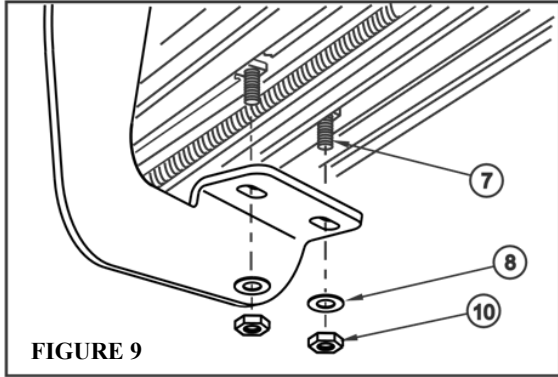

FIGURE 9
5. Attach board to brackets as shown. Make sure board and brackets are properly aligned and tighten fasteners. Recommended torque values are 10 ft-lbs for 5/16" square head fasteners and 23 ft-lbs for M8 fasteners. **See Figure 9.**